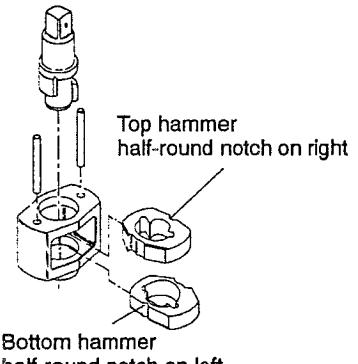

Figure 18
1. Coat the Hammers (14) with a light film of Craftsman No. 18830 Grease.
2. Heavily coat the jaws of the Anvil (8) with Craftsman No. 18830 Grease.
3. Replace the Hammers in the Hammer Frame (12) exactly as they were when you marked them prior to disassembly.
4. Replace the Hammer Pins (13).
5. Examine the base of the Anvil (8) and note its contour. While looking down through the Hammer Frame, swing the top Hammer to its full extreme one way or another until you can match the contour of the Anvil. Enter the Anvil into the Hammer Frame and through the first Hammer. Swing the bottom Hammer in the opposite direction from the top Hammer and maneuver the Anvil slightly until it drops into the bottom Hammer. See Figure 18.